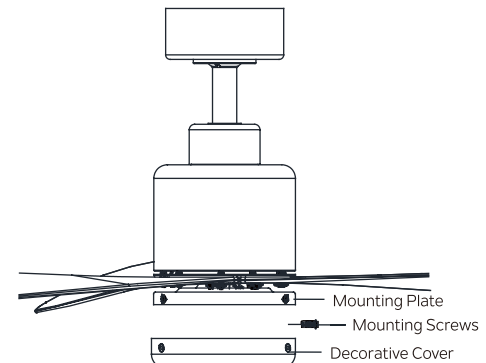

Fig. 16
Step 1. Remove the three preinstalled mounting screws from the outside edge of the decorative cover. Retain mounting screws. (Fig.16)
Step 2. Place the decorative cover over the mounting plate, aligning the holes in the decorative cover with the holes in the mounting plate. Thread the three mounting screws that were removed into the decorative cover and mounting plate, and tighten to secure. (Fig. 16)